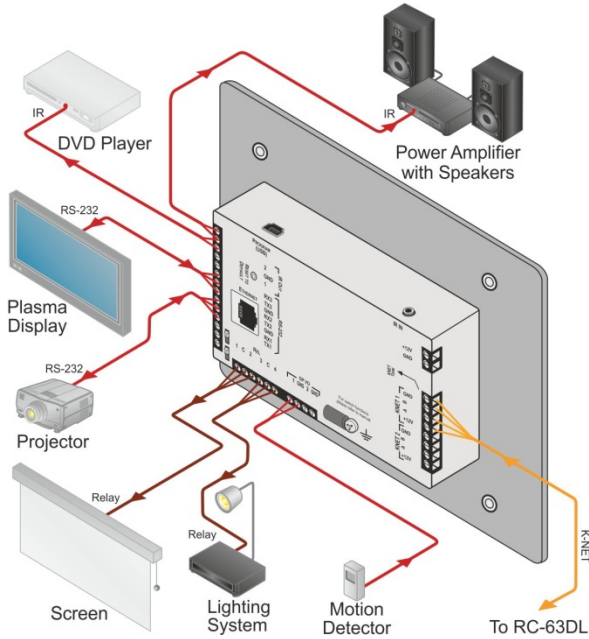

Figure 3: Connecting the RC-74DL Master Room Controller
To connect the **RC-74DL**, as shown in Figure 3 do the following:
5. Connect the Ethernet port to a network (not shown in Figure 3).